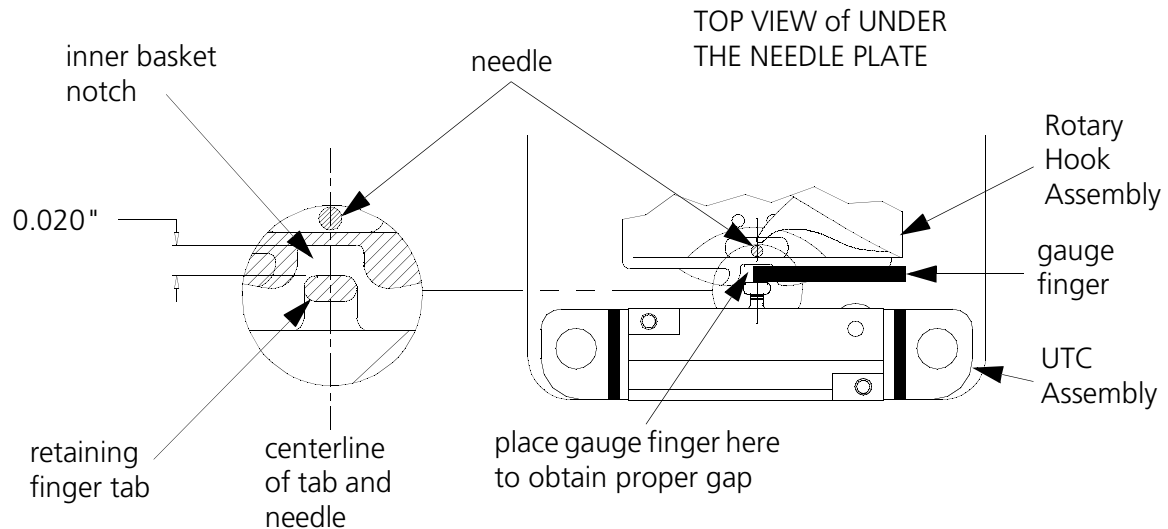

Figure 4-4
- Place the UTC Combination Gauge (p/n 009027-01) from the operator kit between the retaining tab of the UTC and the notch in the hook basket (see Figure 4-4). The gauge should fit with no restriction, nor with too much play (gap should be .020" - .040").